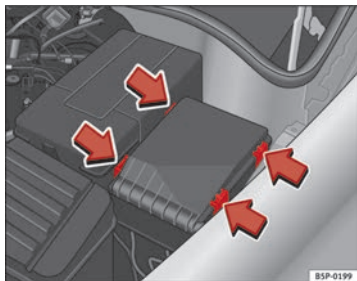

Fig. 177 Fuse box cover in engine compartment
- Prise off the fuse cover in the engine compartment by pressing the tabs towards the centre of the cover ⇒ **fig. 177**.